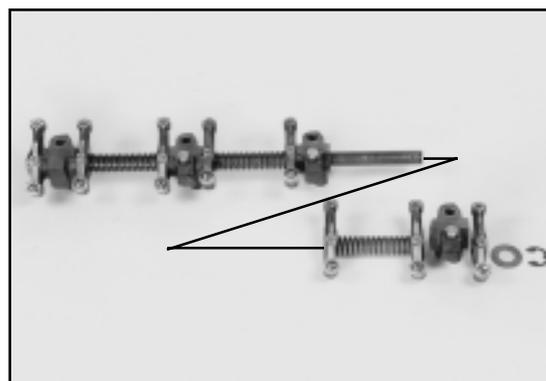

Fig. 7-37
- Reassemble the rocker assembly as shown in Fig. 7-37